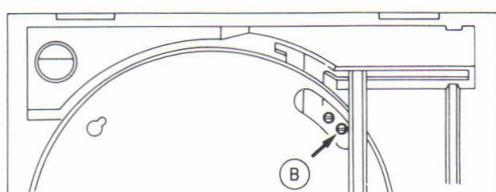

Fig. 25
- 3. Turn the power on, place test record RG325 on the Turntable (35), and check the lead-in count value.
If the lead-in is off, turn the unit plate's eccentric alignment pin (B) to adjust. (Figure 25)